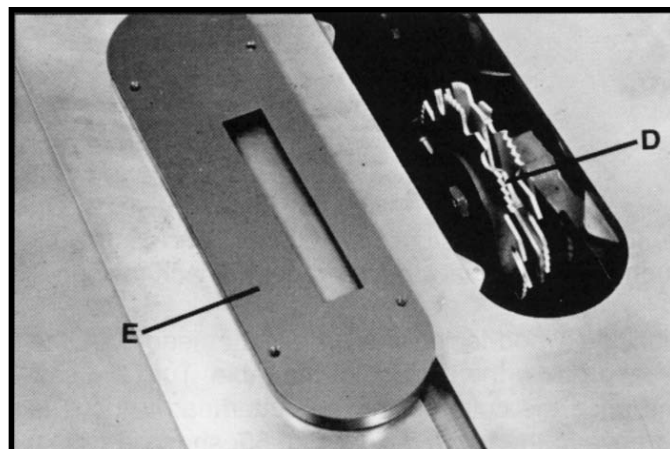

Fig. 57
The dado head set (D) Fig. 57, is assembled to the saw arbor in the same manner as the saw blade. The guard, splitter and anti-kickback finger assembly cannot be used when dadoing and must be removed from the saw. In place of the guard, auxiliary jigs or fixtures and push sticks and featherboards should be used. Also, the accessory dado head table insert (E) Fig. 57, must be used in place of the standard table insert. Fig. 58, shows a typical dado operation using the miter gage as a guide.